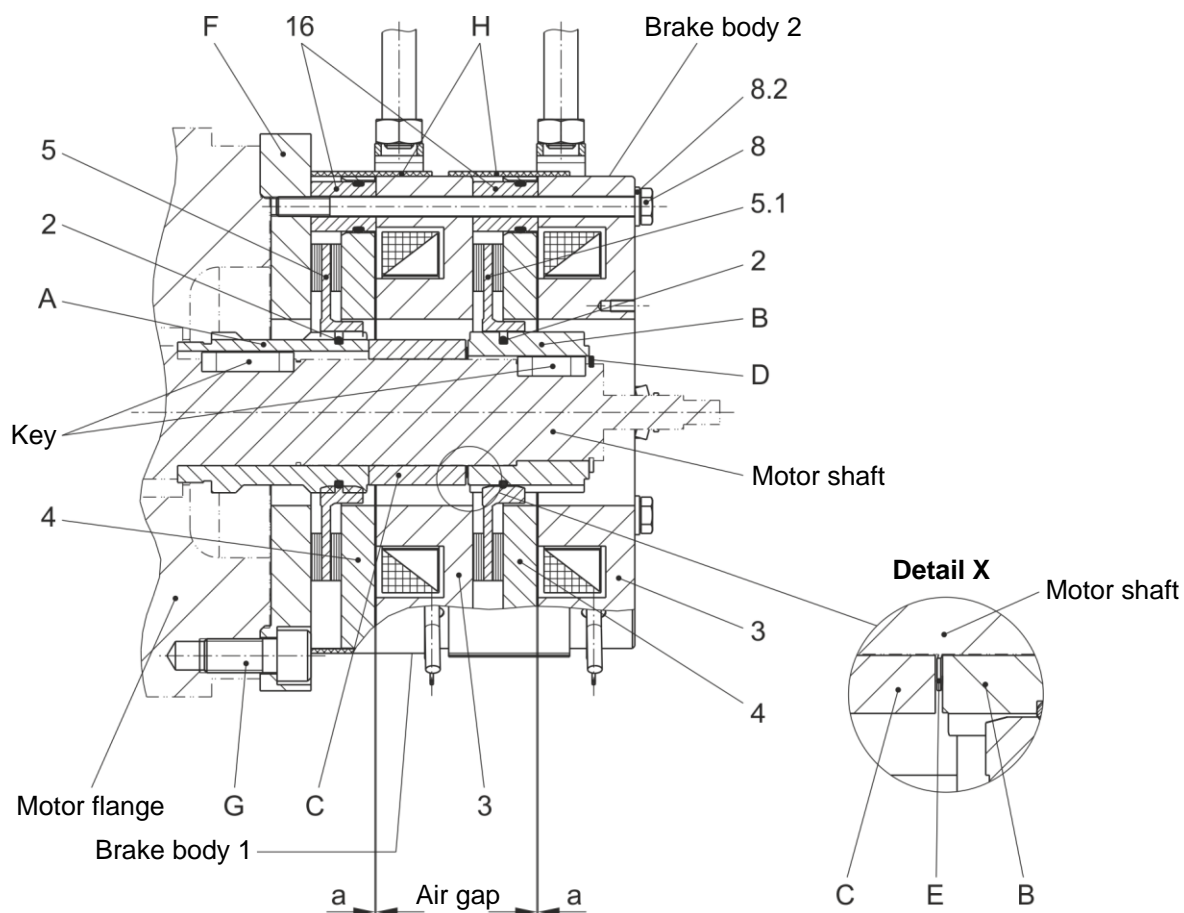

Fig. 1
Deviating Installation (Figs. 1 and 2)
1. Remove the flange plate (F) from the brake.
3. Mount the flange plate (F), with recess/inner centring first, onto the motor flange using 3 cap screws (G). Please observe the **tightening torque of 130 Nm**.
4. Push the hub (A) with the inserted O-ring (Item 2 / O-ring must be greased lightly) correctly positioned, with the short toothing length first, onto the shaft up to contact shaft shoulder.
5. Push rotor 1 (5) by hand over the O-ring (2) onto the hub (A) using light pressure (the rotor collar faces away from the flange plate). Please make sure that the toothing moves easily. Do not damage the O-ring.
6. Push the distance sleeve (C) onto the shaft.
7. Push the ball bearing compensation disk (E), see Fig. 1 / detail X, onto the shaft.
9. Push the hub (B) with the inserted O-ring (Item 2 / O-ring must be greased lightly) correctly positioned, with recess Ø 44 first, onto the shaft up to contact ball bearing compensation disk (E).
10. Mount the locking ring (D).
11. Push brake body 1 over the hub (1) and the rotor collar of rotor 1 (5). The fixing holes must align with the threaded holes in the flange plate (F).
12. Push rotor 2 (5.1) by hand over the O-ring (2) onto the hub (B) using light pressure, so that the friction lining of rotor 2 (5.1) lies against brake body 1 (the rotor collar faces away from the flange plate). Please make sure that the toothing moves easily. Do not damage the O-ring.
13. Insert the hexagon head screws (8) with the mounted washers (8.2) into the bores in brake body 2, join with brake body 1 and screw onto the flange plate (F).